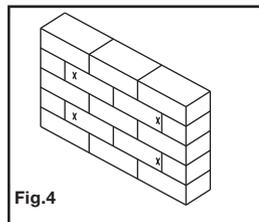

Fig.4
- Drill four 8 mm (5/16") holes in the wall using the template as a guide. Remove any excess dust from the holes. (see Fig. 4).